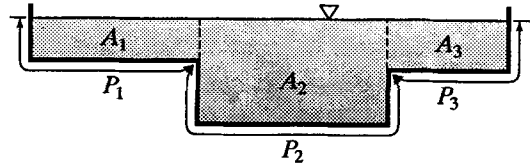

Figure 10.5
10.3.10 Refer to Fig. 10.5. Suppose the widths of  $A_1$ ,  $A_2$ , and  $A_3$  are 25, 8, and 45 m and the total depths are 0.4, 2.8, and 1.1 m. Compute the flow rate if  $S_0 = 0.0018$ ,  $n_1 = n_3 = 0.035$ , and  $n_2 = 0.022$ .